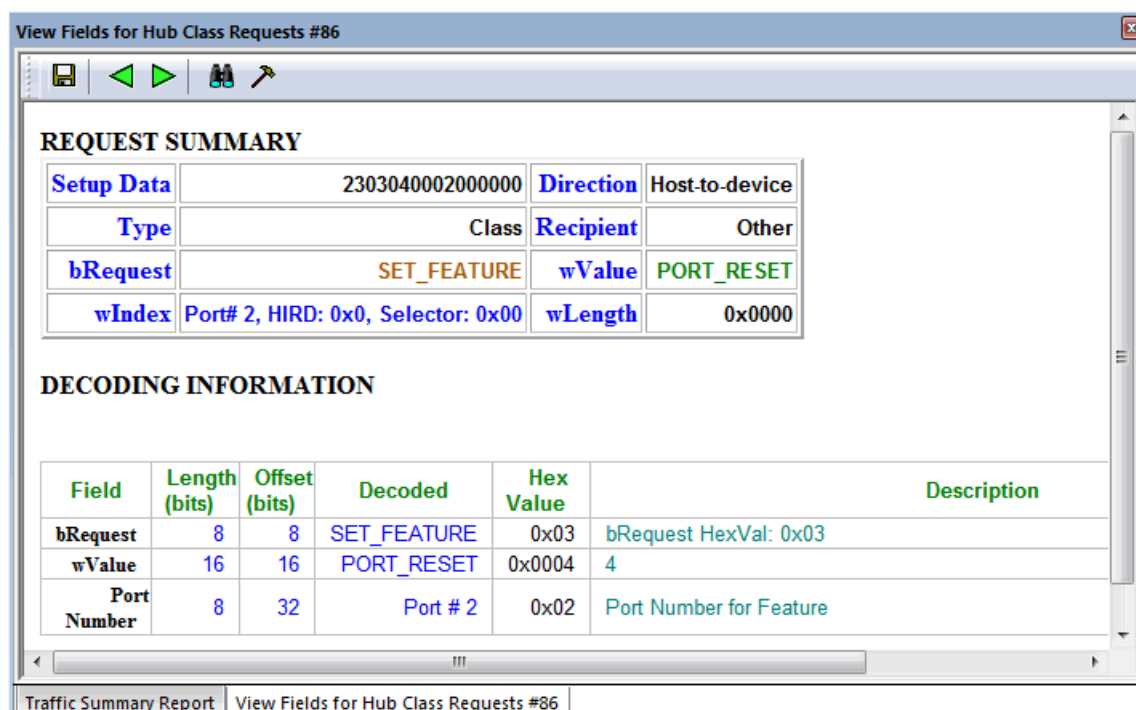

Figure 8.9: View Fields for Hub Class Requests Dialog
- From the USB Device Request menu, select **Decode ... Request** to display the View Fields for ... Class Requests text box (see Figure 8.9 on page 261).